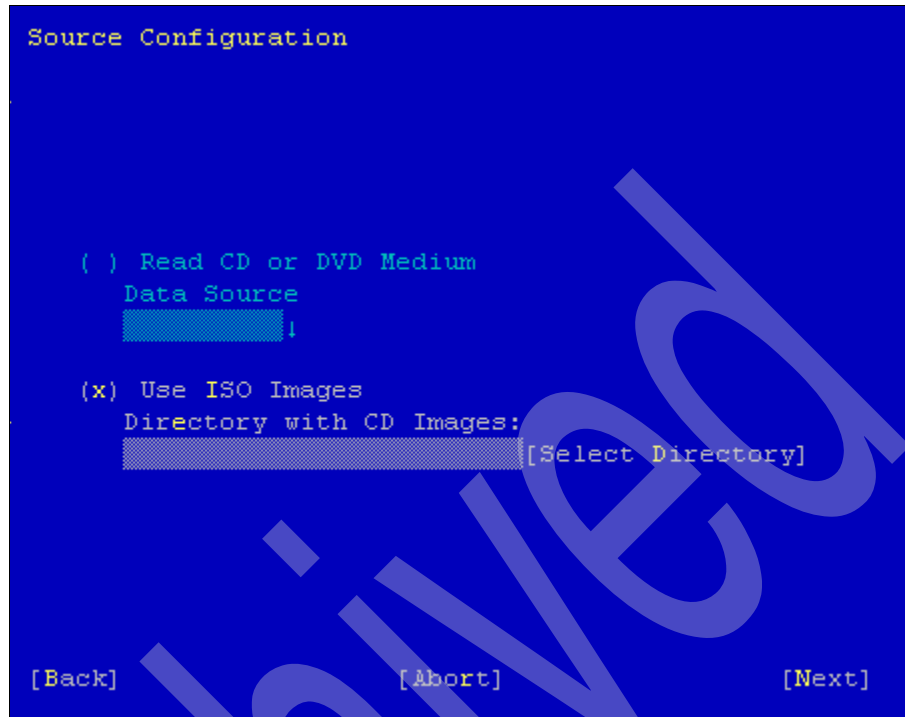

Figure C-3 Source configuration window
9. At the Source Configuration window, if you have a DVD of the operating system, click the check box. Otherwise, if you have ISO images of the DVD contents, select the second check box and browse with Select Directory to the directory that contains all ISO images of all CDs (see Figure C-3 on page 537).
11. If you chose the Read CD or DVD Medium option given in Figure C-3, you are prompted to insert the first DVD.